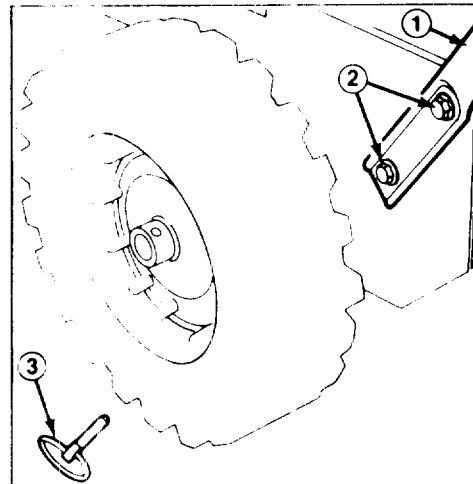

Figure 1
3. Position left handle against side of unit, align handle mount holes with holes in side plate, and secure with two capscrews and curved washers until finger tight (Fig. 1).